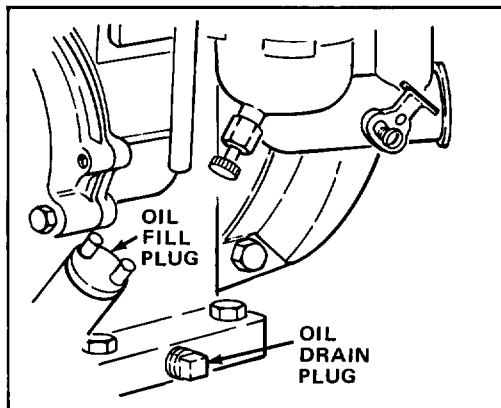

Figure 17
### CHANGING OIL (Fig. 17)
3. While holding front of edger up slightly, remove oil fill and drain plugs (Fig. 17). Slowly tip forward and empty all oil into drain pan. Tip up and down several times to ensure oil drains completely.